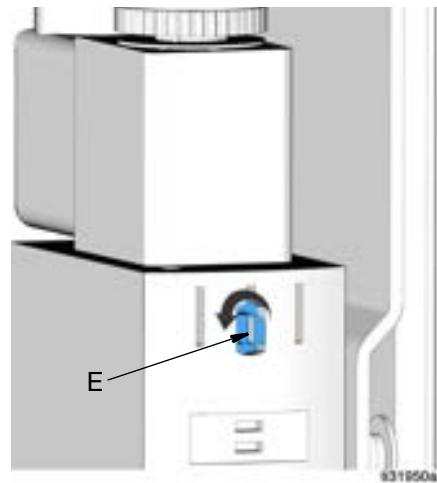

FIG. 15
1. Insert a small, flat screwdriver in the slot of the blue manual override switch screw (E) (FIG. 15).
2. Rotate the blue manual override switch screw (E) clockwise 1/4 turn.
3. Before resuming normal PAC operation with Pulse, reset the blue manual override switch screw (E) to the normal operation position. Insert a small, flat screwdriver in the slotted opening and turn the blue manual override switch screw counter-clockwise back to the original position (FIG. 15).
The blue manual override switch screw (E) in FIG. 15 is set to the normal operation position.